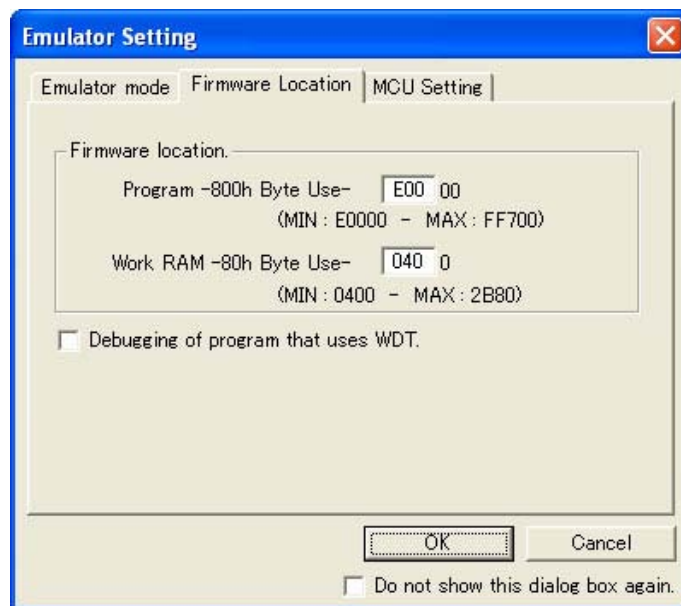

Figure 5.1 [Firmware Location] Tab of the [Emulator Setting] Dialog Box
*1: When starting up the debugger, the [Emulator Setting] dialog box shown in Figure 5.1 is displayed. Specify an area which is not used in the user system.